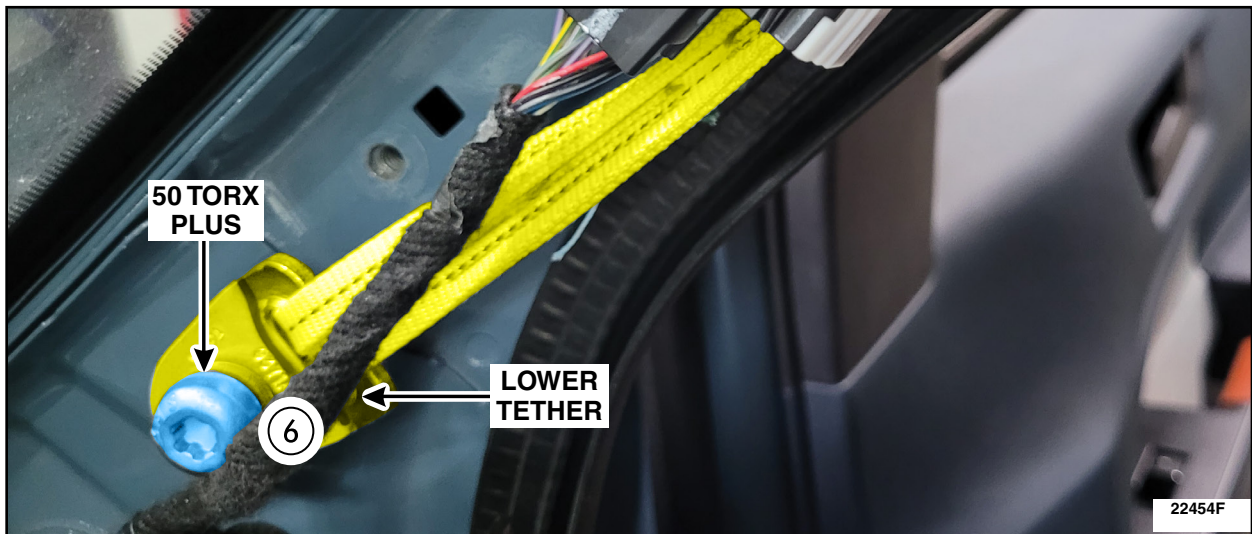

FIGURE 27
29. Using the *new* 50 torx plus bolt attach the *new* side curtain airbag lower tether *and hand tighten the bolt*. See Figure 27.